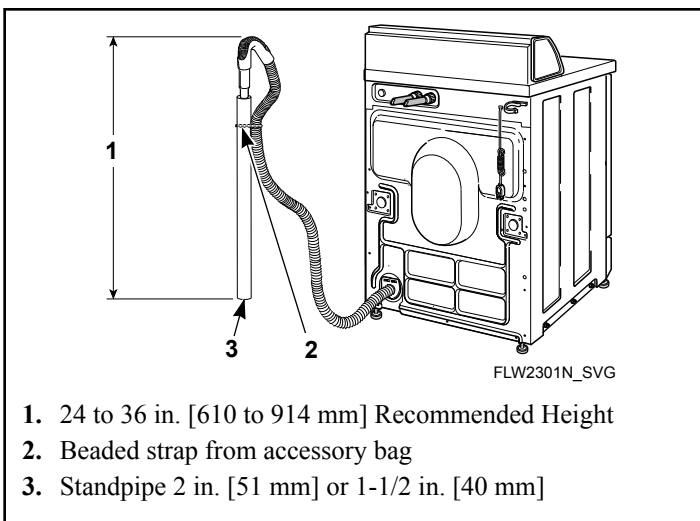

Figure 8
- Remove the beaded tie-down strap from accessories bag and place around standpipe and drain hose. Refer to *Figure 8*.